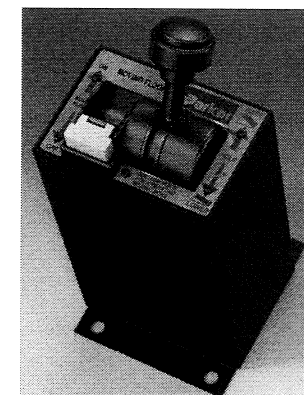

Figure 3
3. Turn the PTO switch on and use the Combo valve AVCP-695-M-T-8 to control the CVA16DP valve using the lever control to raise, hold, or lower the dump trailer. (Figure 3)